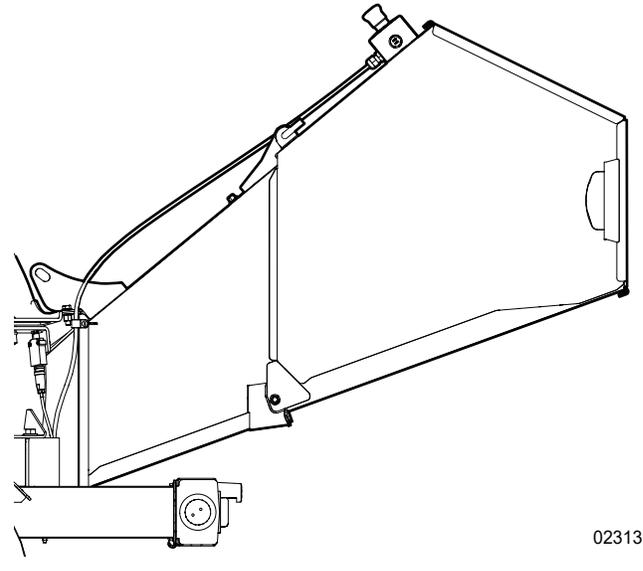

Figure 16—Open position
2. Tilt the chipper hopper to the open position. See *Figure 16*.